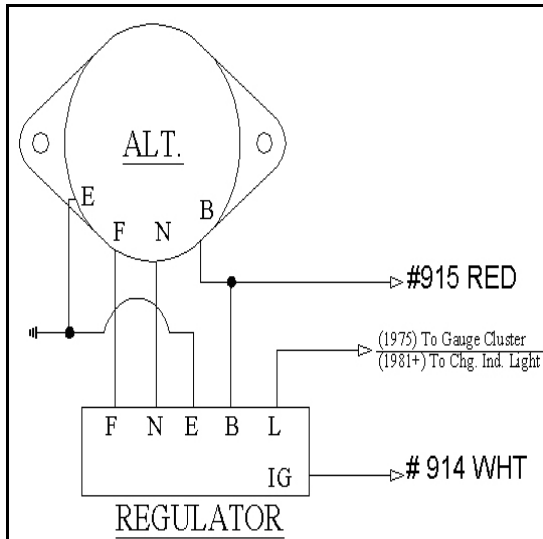

Figure 7.3 Toyota Alt Diagram (1975-81)
7.3 Toyota Alternator (1975, 1981+) See Figure 7-3
*Note: Your Alternator may not appear exactly as represented in **Figure 7-3**. The circuits are wired the same way, though.*